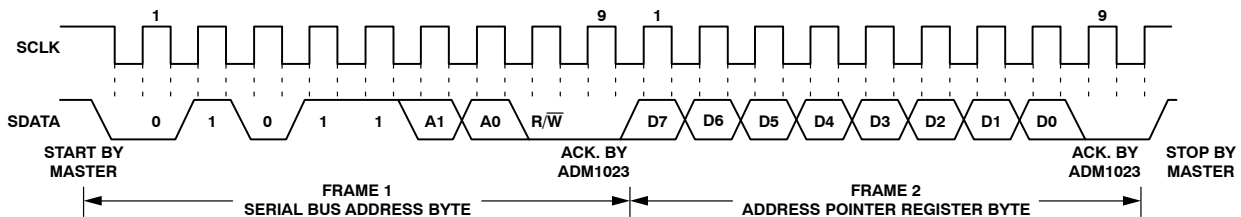
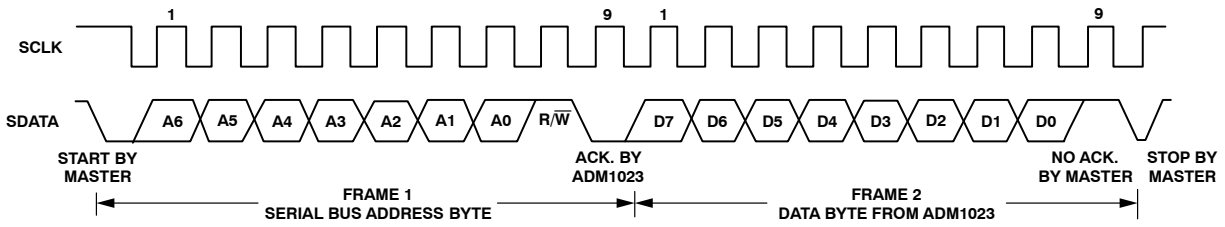

Figure 16. Writing to the Address Pointer Register Only
Figure 17. Reading Data from a Previously Selected Register
1. If the ADM1023's address pointer register value is unknown or not the desired value, it is necessary to set it to the correct value before data can be read from the desired data register. This is done by performing a write to the ADM1023 as before, but only the data byte containing the register read address is sent, as data is not to be written to the register. This is shown in Figure 16. A read operation is then performed consisting of the serial bus address,  $R/\overline{W}$  bit set to 1, followed by the data byte read from the data register. This is shown in Figure 17.